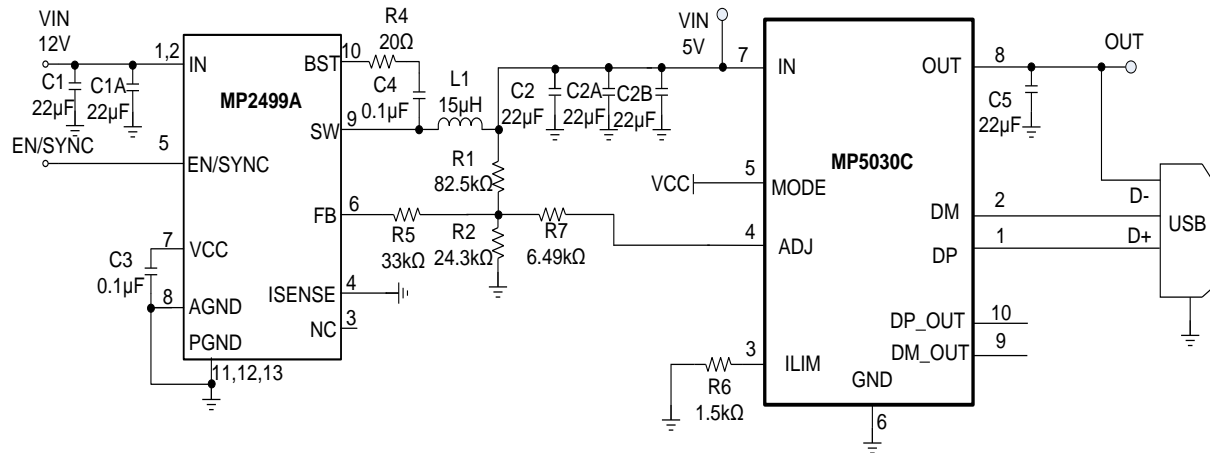

Figure 8: MP5030C + MP2499A for CLA Car Charger, DCP Mode w/ QC
8) The recommended layout is based on the Typical Application Circuit in Figure 8 through Figure 10.